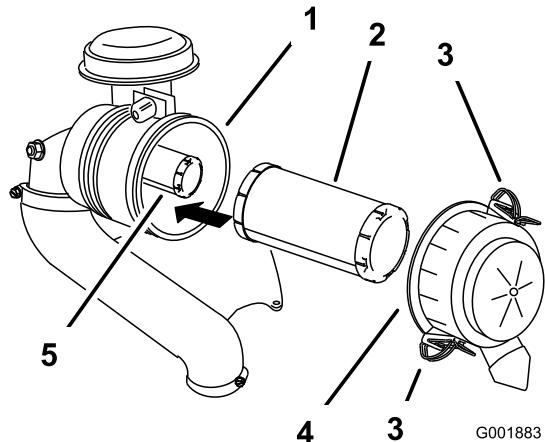

Figure 52
5. Gently slide the primary filter out of the air-cleaner body (Figure 52).
3. Release the latches on the air cleaner and pull the air-cleaner cover off the air-cleaner body (Figure 52).
2. If you are replacing the inner filter, carefully slide it into the filter body (Figure 52).
- Carefully slide the primary filter over the safety filter (Figure 52).
- Install the air-cleaner cover and secure the latches (Figure 52).